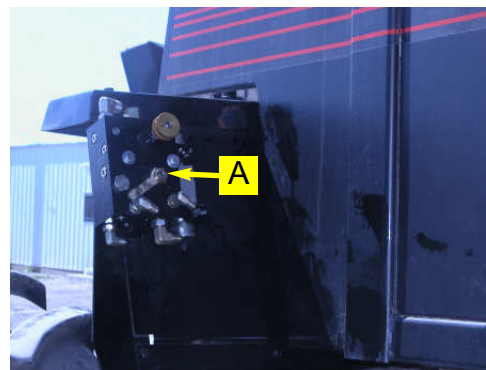

Figure 2c. Mounted Automated Steering Block.
- d. Install the Automated Steering Block, as prepared in step 1, to the mounting bracket using the hardware in group (F). Be sure the Automated Steering Block is oriented with the P port pointing up. (Figure 2c.)